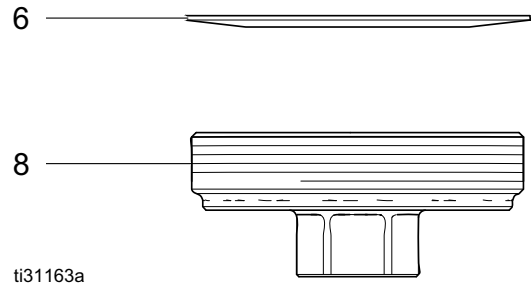

FIG. 32: Place Spring Disc on Rotor Shaft
- Remove the two 4 mm locking screws (16) that secure the rotor adjuster (8) to the rotor support (5). Keep the rotor adjuster in place in the rotor support.
- Place the spring disc (6) on the rotor shaft. See FIG. 32.